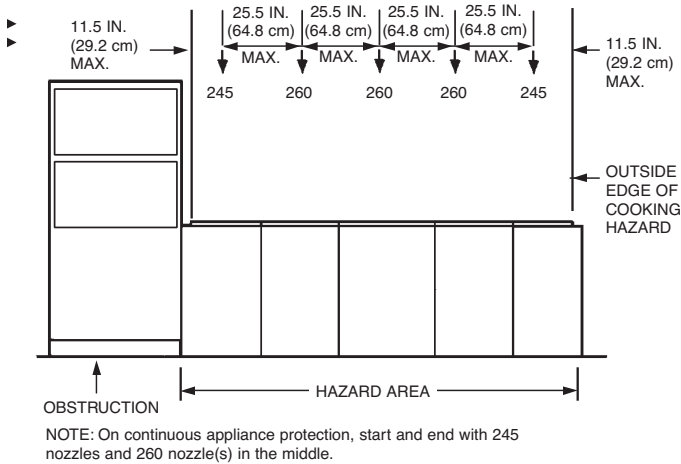

FIGURE 97
- When obstructions are located adjacent to appliance(s) protected by overlapping nozzles, the overlapping appliance nozzle spacing must start with the appliance(s) adjacent to the obstruction. See Figure 97.